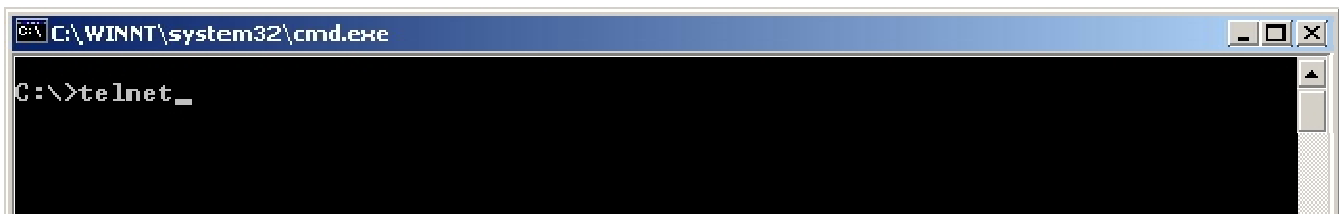

Fig. 12 – Run...
- 2) Run Telnet. (Type "Telnet" in the newly opened window and push Enter – cf. the Fig. 12).